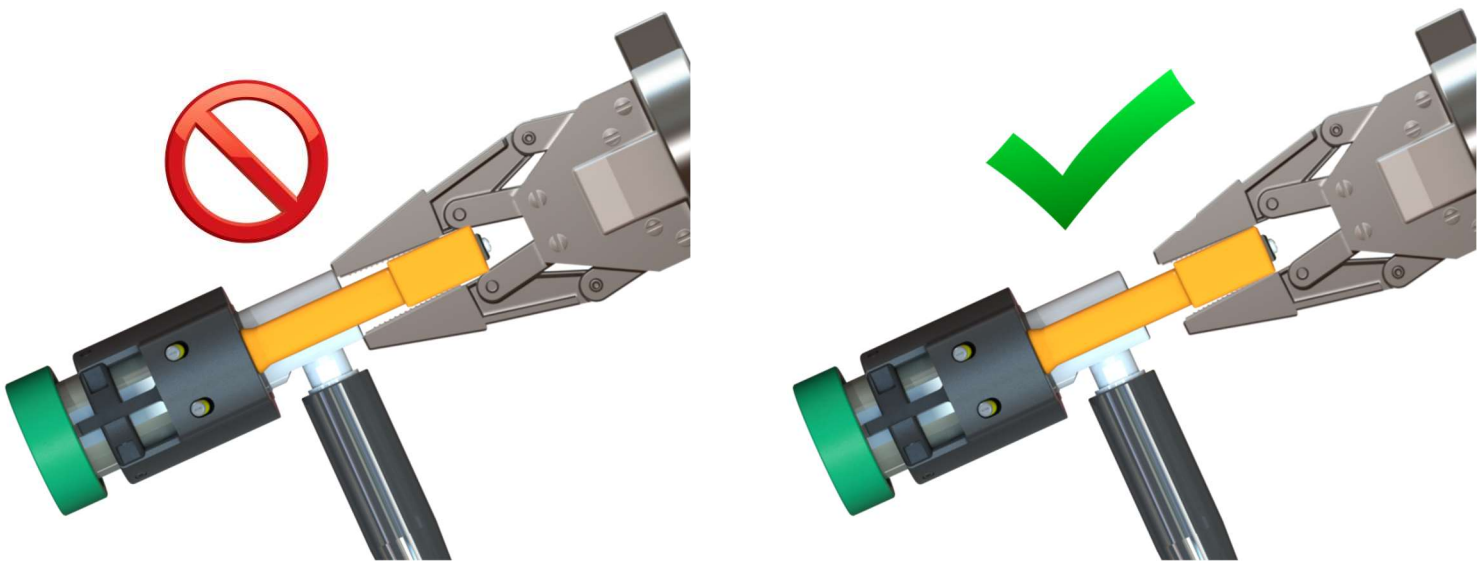

Figure 2: Incorrect (left) and Correct (right) Positioning of the ROV Jaw in Relation to the Connector Handle
- Do not allow the ROV jaw to contact the connector shell, as this will prevent mate operation and possibly cause damage to the connector. See Figure 2 for reference: